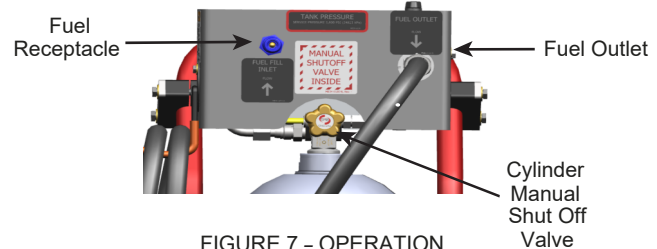

FIGURE 7 - OPERATION
1. Remove the rubber cap from the fueling receptacle. (Figure 7)